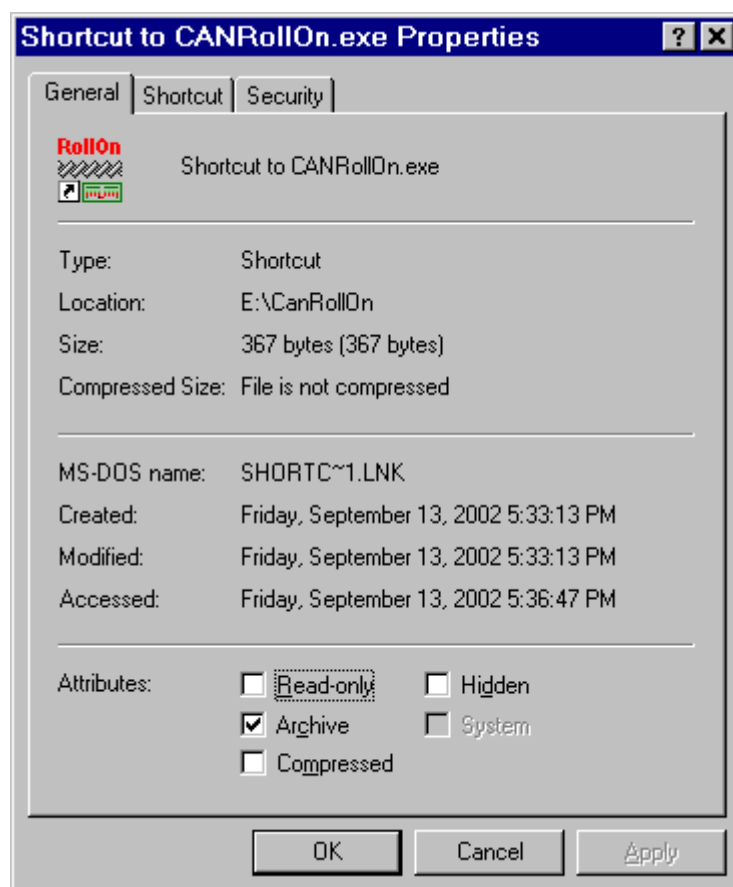

Fig. 7.5
- Click on **Properties** menu item to display the **Shortcut to CANopenRollOn.exe** dialog box as shown in Fig. 7.5.